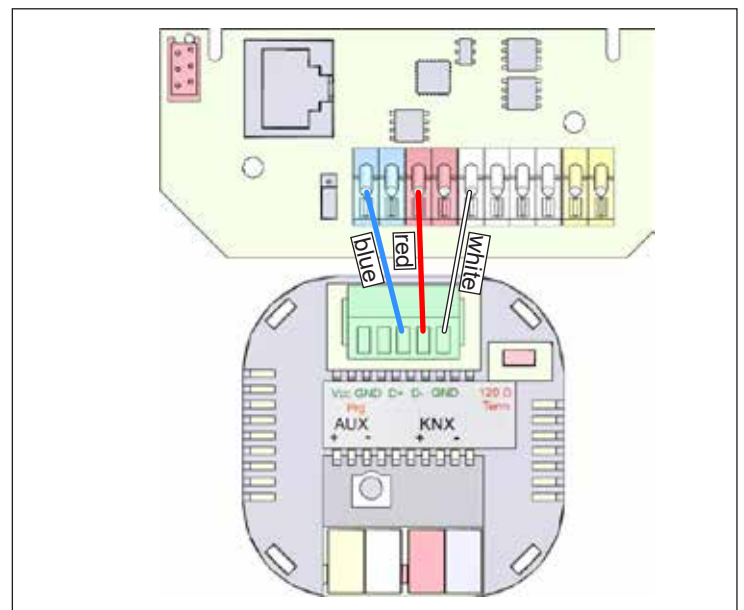

Fig. 4: Wiring diagram: gateway – connection board
- ▶ Wire the gateway to the connection board in the ventilation unit as shown in the wiring diagram (see Fig. 4).